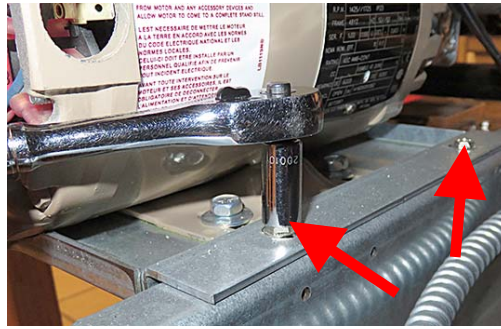

Figure 16
18. Use a 5/16" socket to remove the four (4) screws attaching the pump motor bridge to the frame (see Figure 16).